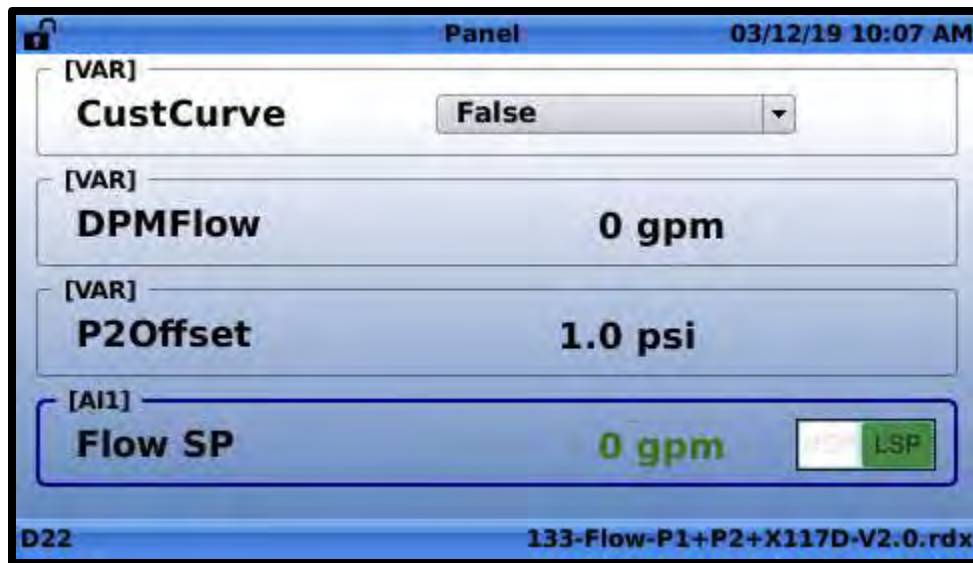

Figure 8.6
4. Press "OK" so the "LSP" is highlighted in green as shown in **FIGURE 8.6**.